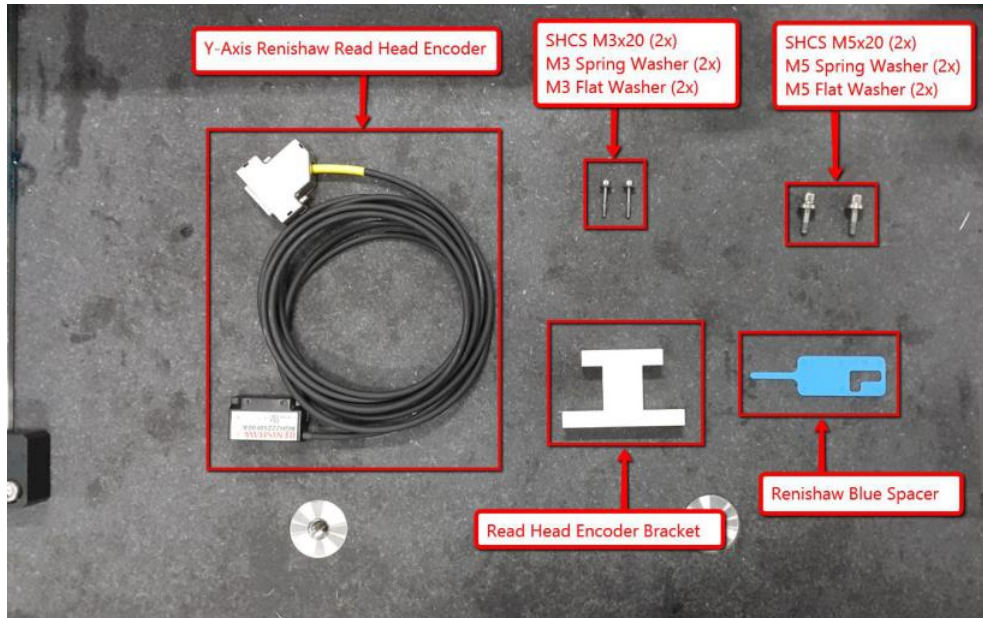

Figure 13 Replacement Parts
11. Prepare the new Y axis Read Head Encoder and ensure the items shown in Figure 13 is available for part replacement.